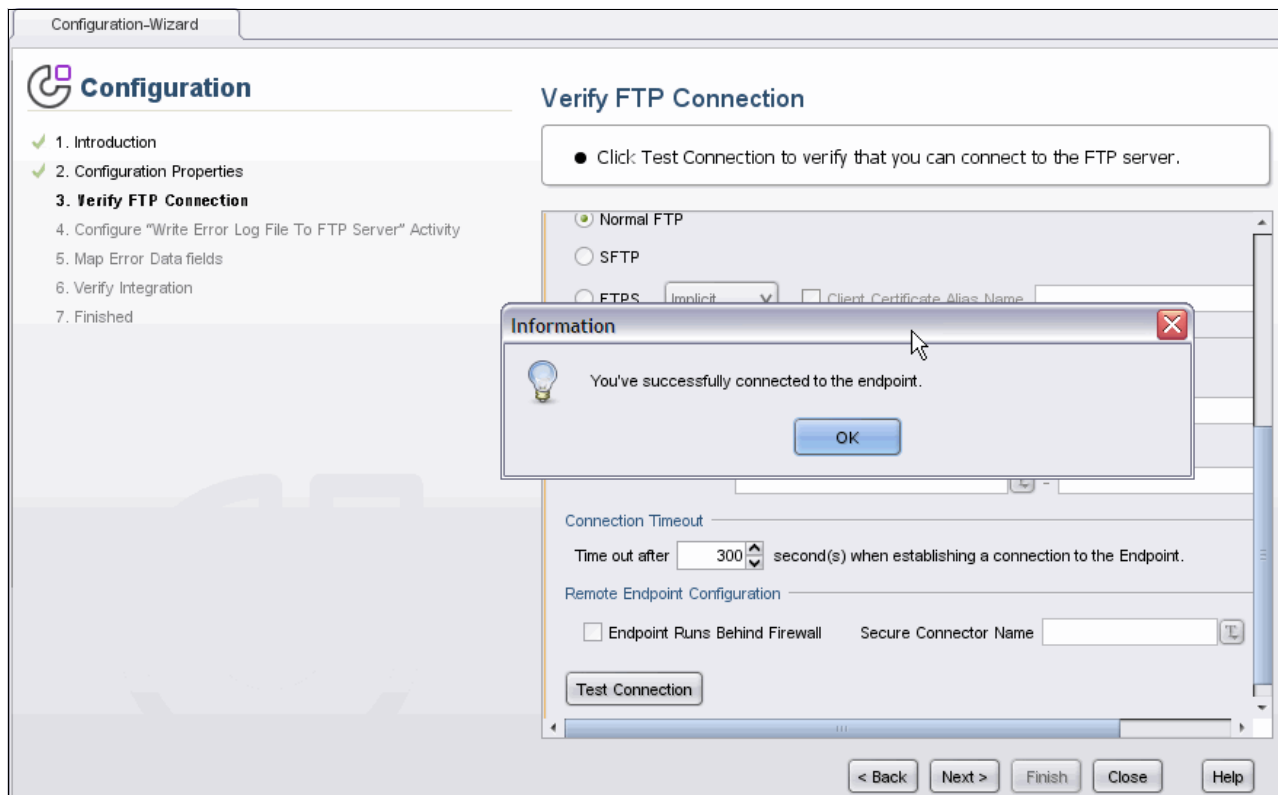

Figure 7-27 Configuration Wizard Verify FTP Connection step
4. Verify the connection to the FTP server by clicking **Test Connection**. If you can connect successfully to the endpoint, a message displays, as shown in Figure 7-27. Click **OK**, and then click **Next**.